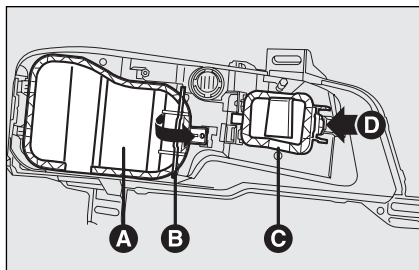

fig. 27
- remove the protective cover **A** and **C**-**fig. 27** releasing catch **B** and **D** respectively;